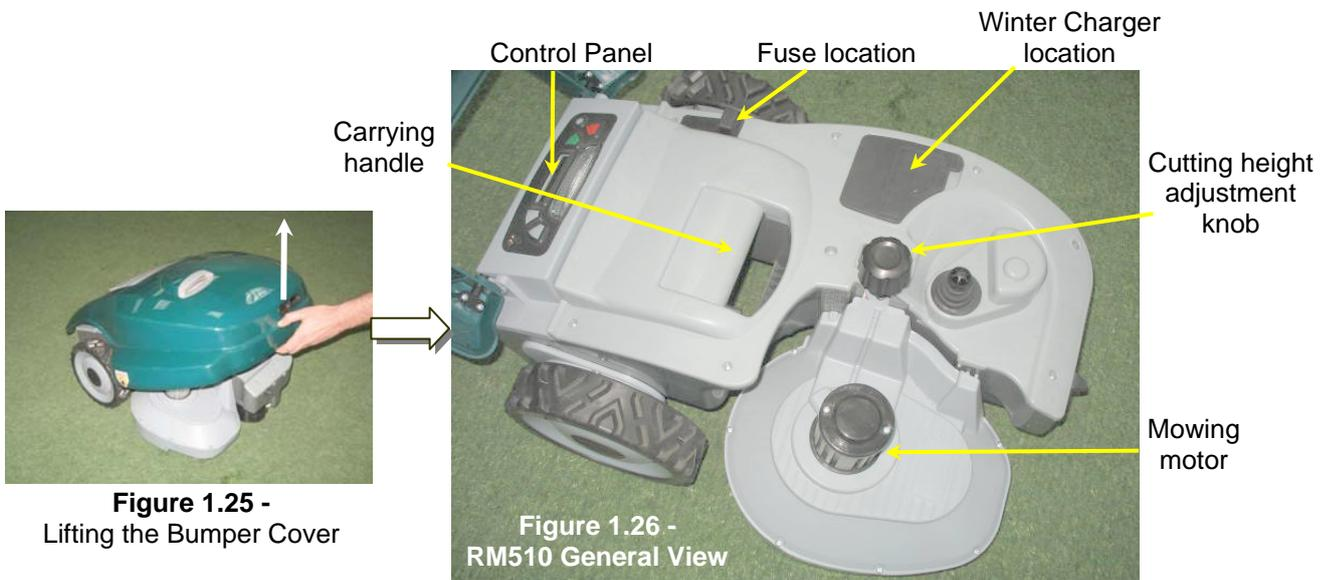

Figure 1.25 -
- Lift the Bumper Cover from the front side of the Robomow (figure 1.25).